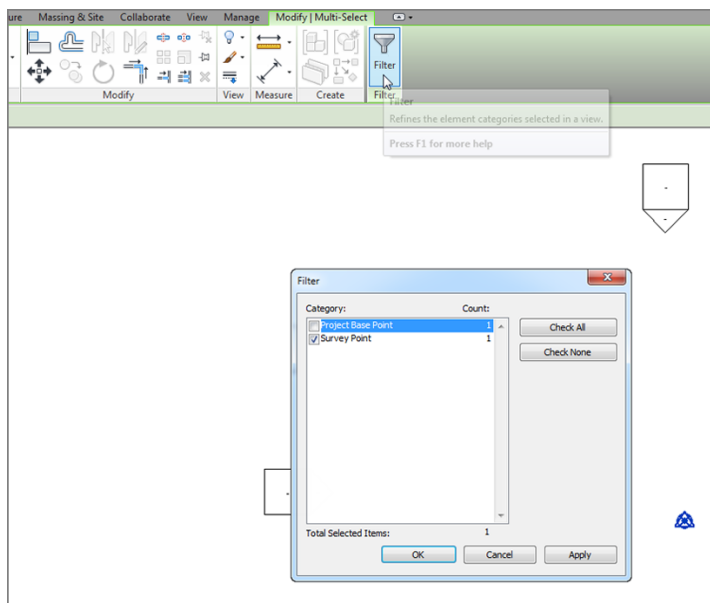

FIGURE 18.23: Selecting the project datum
4. Deselect Project Base Point, as shown in Figure 18.23.